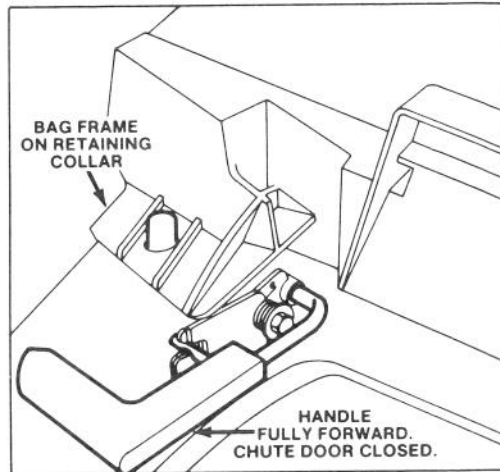

Figure 9
2. Assure chute door handle is fully forward and pin is engaged in catch (Fig. 9).
3. **INSTALLING BAG** — Slide hole in bag frame onto the retaining collar on housing (Fig. 9) and set rear of bag frame onto bag rod.
5. **EMPTYING BAG** — Stop engine and wait for all parts to stop. Move chute door handle forward to engage the locking pin with catch (Fig. 9). Grasp handle at front and rear of bag and lift bag off mower. Gradually tip bag forward to empty clippings.